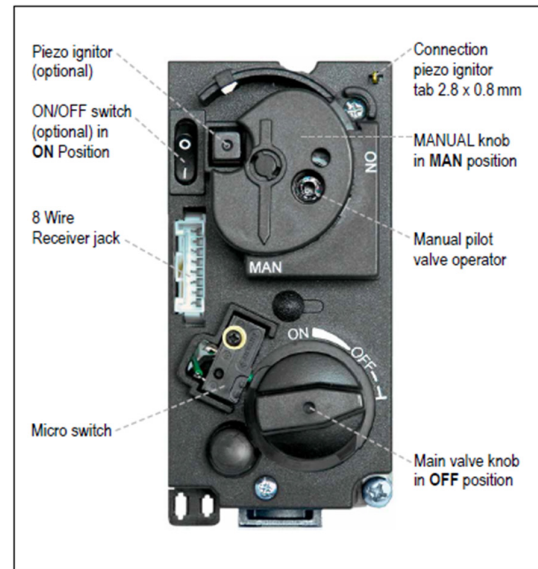

Figure 24: Combination control, cover
- Turn MANUAL knob on valve to the **ON**, full counter-clockwise ↺ position (see figure 24, page 9).
5. Wait five (5) minutes to clear out any gas. Verify that no gas is in the area around the appliance, including near the floor. **If you detect gas STOP! Follow "WHAT TO DO IF YOU SMELL GAS" in the safety information on page 3.** If no gas is present, proceed to step 6.
8. Fully push down manual pilot valve operator and hold in, to start pilot gas flow (see figure 24).
Change the ignition cable from the receiver to the valve (see figure 24). Push in the piezo ignitor to ignite. If pilot does not stay lit, wait five (5) minutes and repeat.